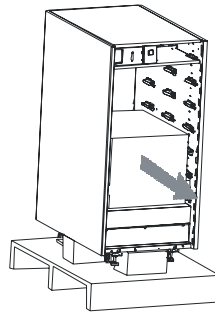

Fig. 3
3. Remove the lower module and the foam from the frames (see Fig. 3);